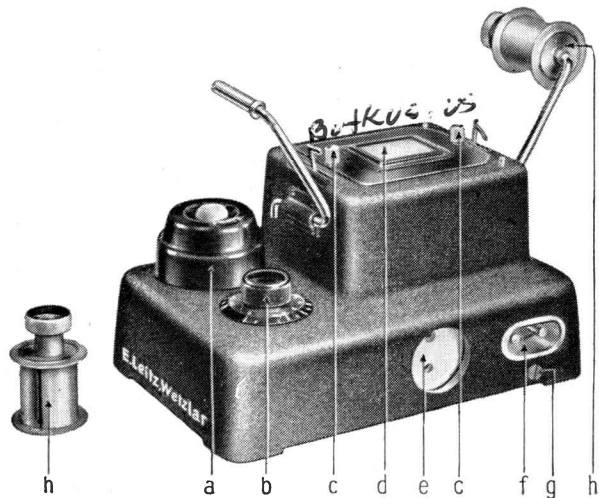

Fig. 2 Base housing.
1. Place the film attachment (fig. 1 & 3) on the base housing (fig. 2) and fix in position.
1. When these preparations have been carried out the apparatus is connected up directly to the mains by means of plug **f** (fig. 2) when the red lamp automatically lights up; it now continues to burn all the time the apparatus is in operation.
1. When the negative to be printed is correctly placed in the image aperture in the light of the red lamp, the white light is switched on by pressing the button switch **a** (fig. 2), so that the density of the negative can be observed. The strength of the light-source is then increased or decreased by turning the regulating knob **b** (fig. 2), to suit the density of the negative. The regulating knob carries a scale marked from 1 to 10 although it is normally used only up to the mark 8 or 8.5.
1. The exposure is made by pressing the switch **a** (fig. 2). The slide printer is also equipped for use with an exposure timer, which is connected to the plug **e** (fig. 2). The ordinary types of exposure timer (Hirsch timer) are to be shorted by means of a short-circuit plug.
2. Wind the negative film to be printed with the coated side inwards on one of the film spools **h** (fig. 2) and pass the end of the film – coated side upwards – through the film guide, the pressure bridge being raised (fig. 1).
4. Connect the apparatus to the mains with the plug **f** (fig. 2), when the red lamp will light up. Switch off all white light in the darkroom.
9. The exposure is made by pressing the switch (fig. 2). When an exposure timer is used please refer to paragraph E 1 of the foregoing instructions.
The two lamps in the base housing can easily be unscrewed and removed after taking off the plate holding the opal glass **d** (fig. 2), which is held in place by two milled screws. The milled screws are, of course, undone by hand.
To comply with safety regulations, the red terminal **g** (fig. 2) allows earthing the apparatus while in use, by fastening a wire under the clamping screw and running it at the other end to an earth connection, such as a water-pipe.